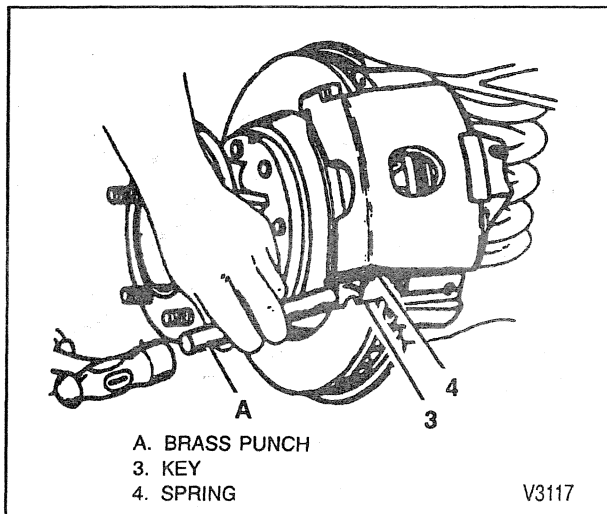

Figure 20—Installing the Caliper Support Key
3. Spring (4) and support key (3).
- Use a brass punch and hammer to drive the support key in place (figure 20).
4. Bolt (2).